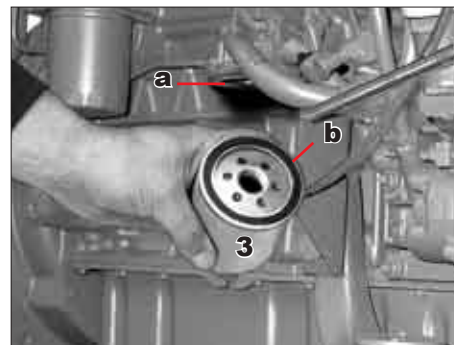

Fig. 80
3. Clean the sealing surfaces of the filter base Item a (Fig. 80).
4. Wet the seal of the new filter cartridge with diesel fuel Item b (Fig. 80).